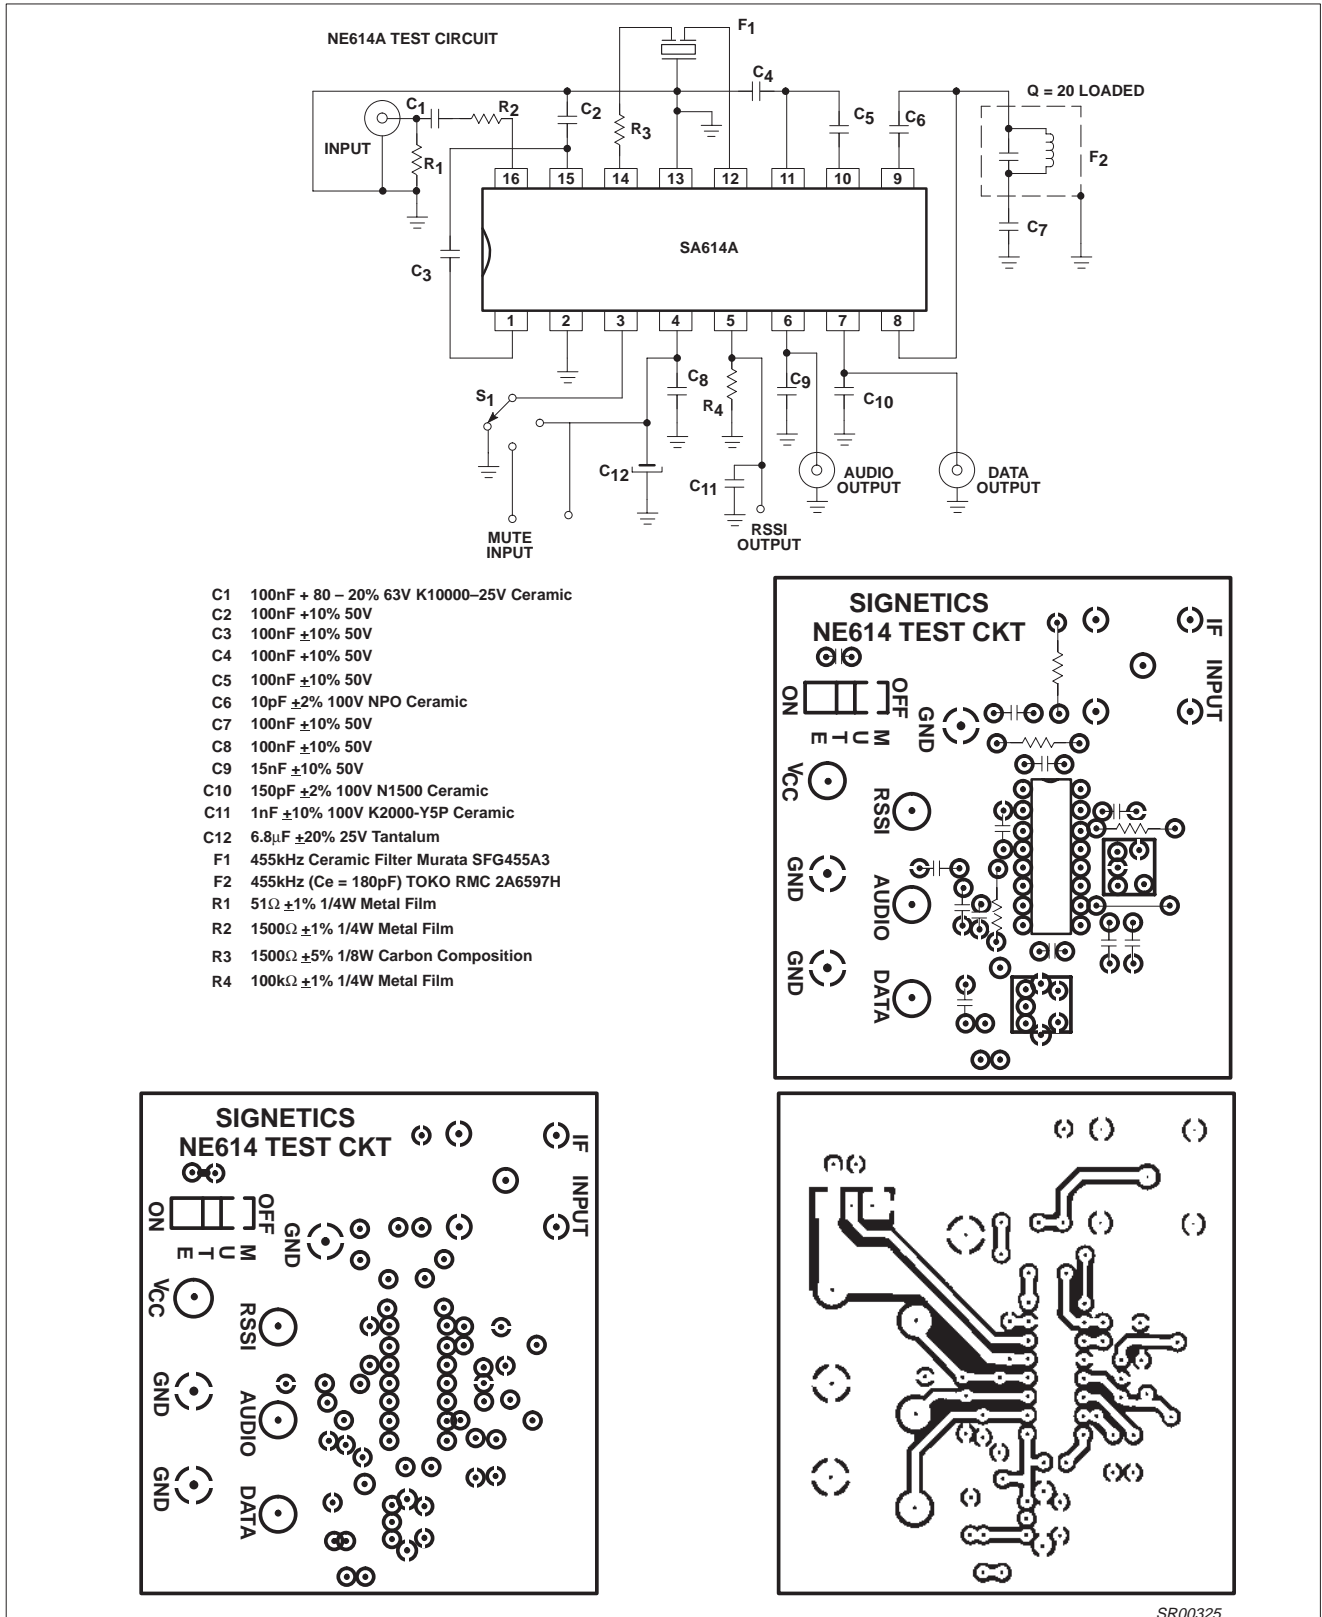
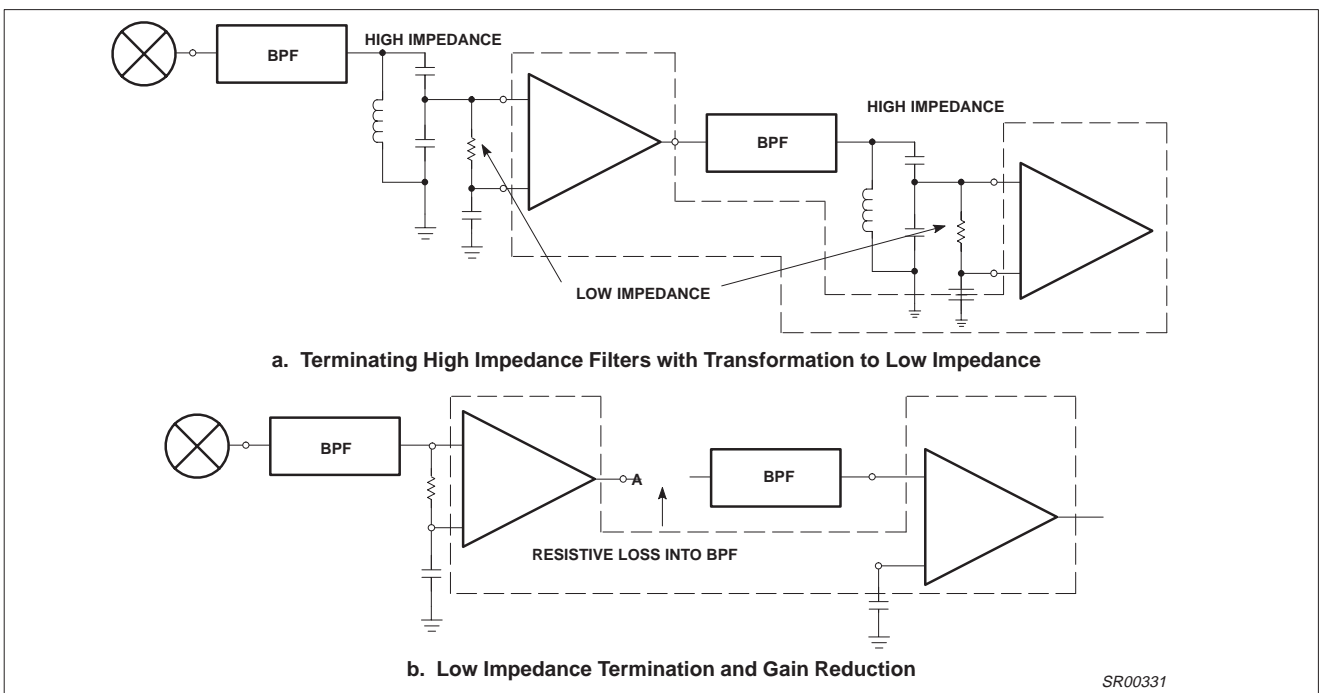

Figure 3. SA614A Test Circuit
Figure 9. Practical Termination
Typical reading at $T_A = 25^\circ\text{C}$; $V_{CC} = \pm 6\text{V}$, unless otherwise stated. IF frequency = 455kHz; IF level = -47dBm; FM modulation = 1kHz with $\pm 8\text{kHz}$ peak deviation. Audio output with C-message weighted filter and de-emphasis capacitor. Test circuit Figure 3. The parameters listed below are tested using automatic test equipment to assure consistent electrical characteristics. The limits do not represent the ultimate performance limits of the device. Use of an optimized RF layout will improve many of the listed parameters.
The SA614A is a very high gain, high frequency device. Correct operation is not possible if good RF layout and gain stage practices are not used. The SA614A cannot be evaluated independent of circuit, components, and board layout. A physical layout which correlates to the electrical limits is shown in Figure 3. This configuration can be used as the basis for production layout.
There are three primary ways to deal with regeneration: (1) Minimize the feedback by gain stage isolation, (2) lower the stage input impedances, thus increasing the feedback attenuation factor, and (3) reduce the gain. Gain reduction can effectively be accomplished by adding attenuation between stages. This can also lower the input impedance if well planned. Examples of impedance/gain adjustment are shown in Figure 9. Reduced gain will result in reduced limiting sensitivity.
The high gain and bandwidth of the SA614A in combination with its very low currents permit circuit implementation with superior performance. However, stability must be maintained and, to do that, every possible feedback mechanism must be addressed. These mechanisms are: 1) Supply lines and ground, 2) stray layout inductances and capacitances, 3) radiated fields, and 4) phase shift. As the system IF increases, so must the attention to fields and strays. However, ground and supply loops cannot be overlooked, especially at lower frequencies. Even at 455kHz, using the test layout in Figure 3, instability will occur if the supply line is not decoupled with two high quality RF capacitors, a 0.1µF monolithic right at the V_{CC} pin, and a 6.8µF tantalum on the supply line. An electrolytic is not an adequate substitute. At 10.7MHz, a 1µF tantalum has proven acceptable with this layout. Every layout must be evaluated on its own merit, but don't underestimate the importance of good supply bypass.
At 455kHz, if the layout of Figure 3 or one substantially similar is used, it is possible to directly connect ceramic filters to the input and between limiter stages with no special consideration. At frequencies above 2MHz, some input impedance reduction is usually necessary. Figure 9 demonstrates a practical means.